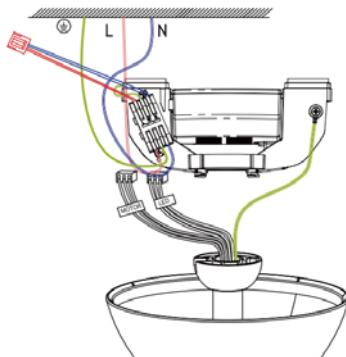

Fig. 6
(Refer to Fig 6.).
- Screw "EARTH" cable from motor to cavity \ominus on the mounting bracket. Please refer to Fig 6.